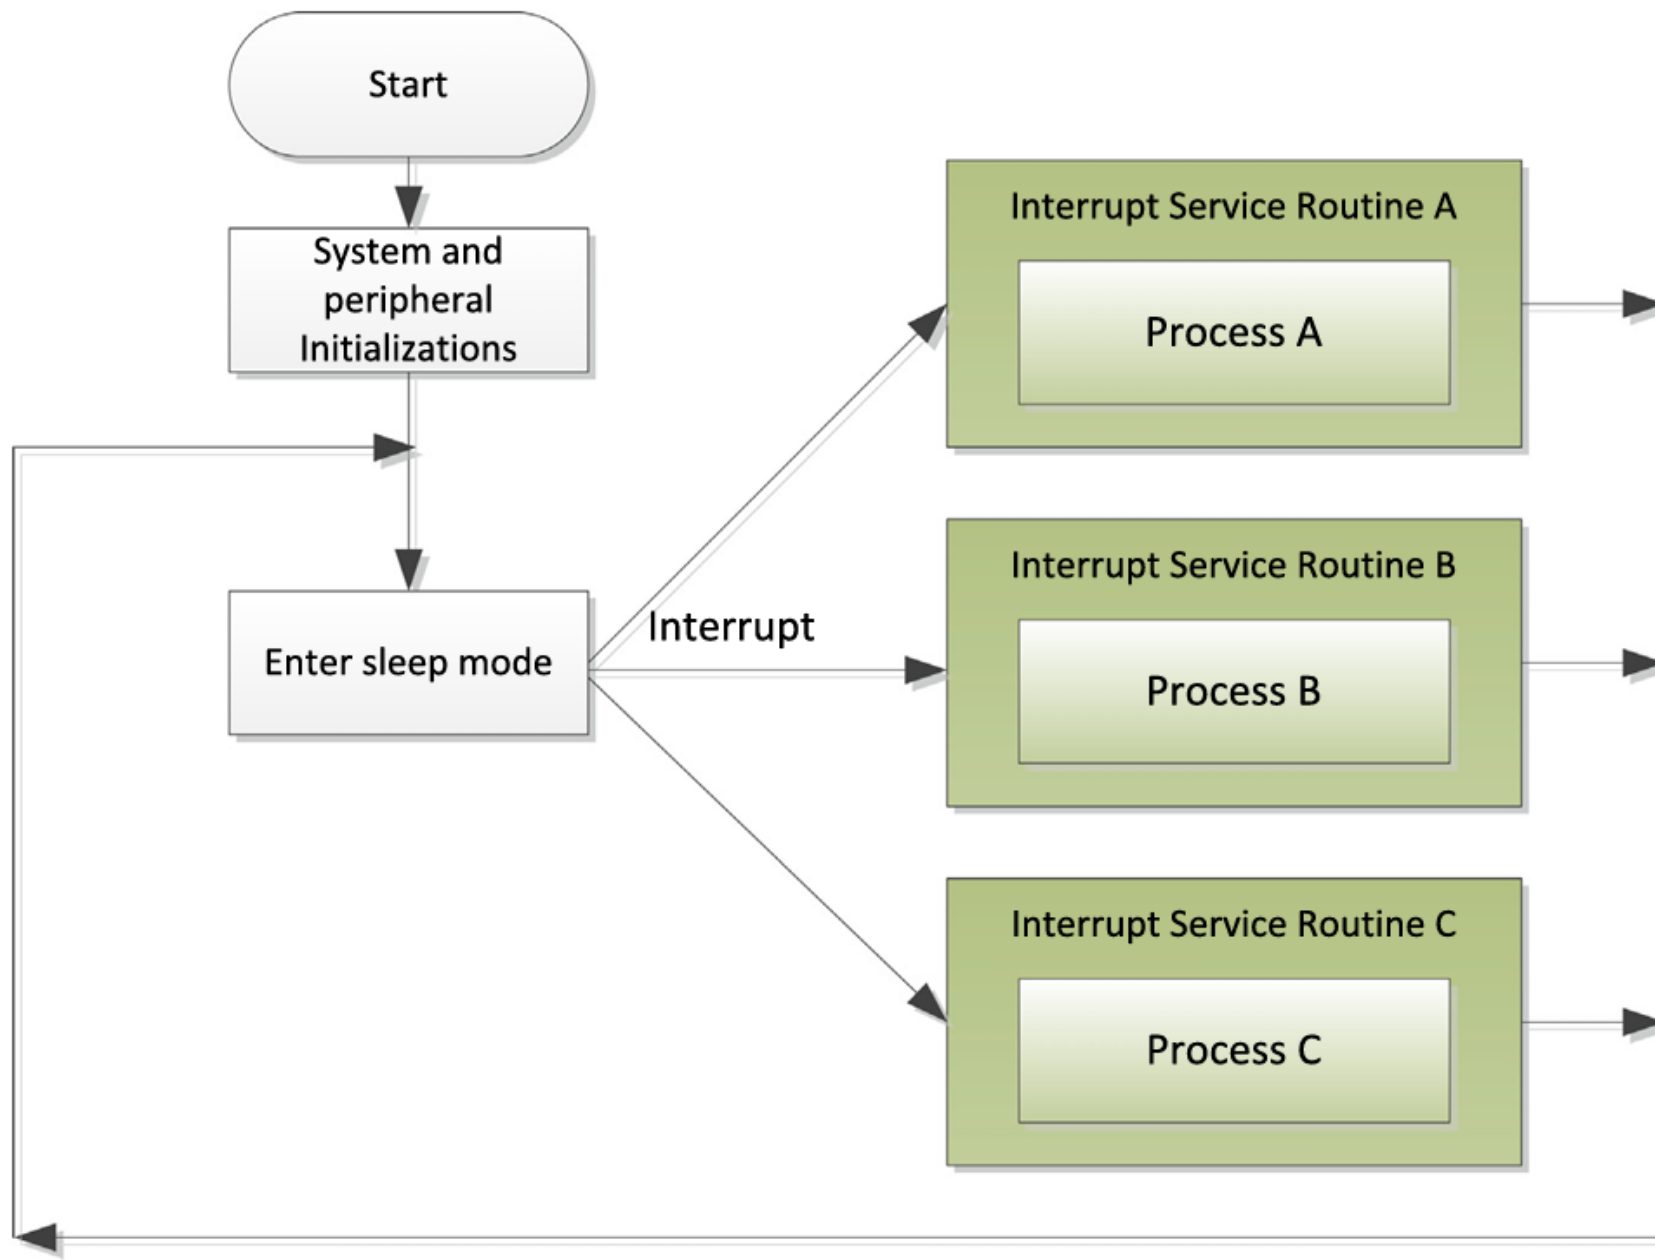

FIGURE 2.9
- All microcontrollers have some sort of sleep mode support to reduce power, in which the peripheral can wake up the processor when it requires a service (Figure 2.9). This is commonly known as an interrupt-driven application.